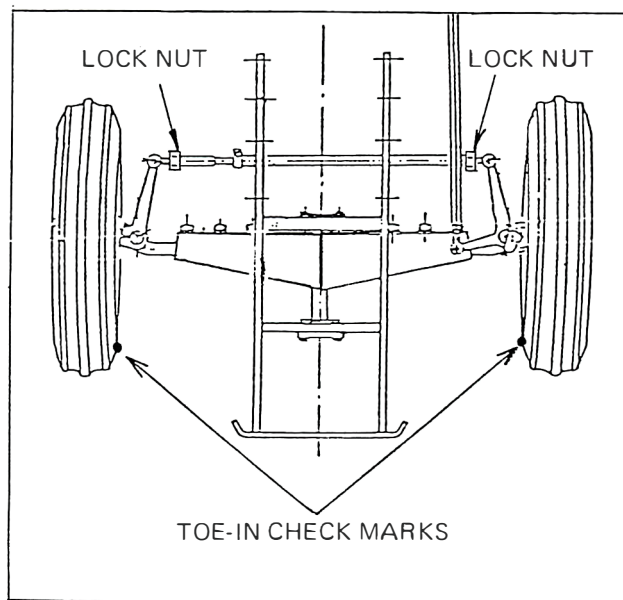

Figure 65 – Checking Toe-In
1. With the front wheels in the straight-ahead position, mark the front of the wheels (not the tires) at wheel hub height (Figure 65). Determine the straight-ahead position by turning the steering wheel from lock to lock and then halfway back.